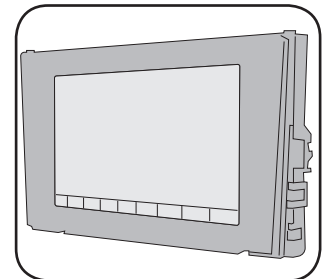
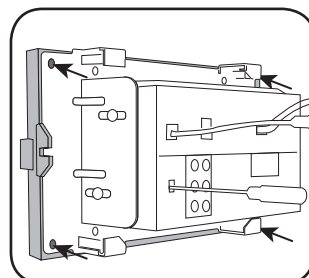

Fig. 1.15
Fig. 1.16
- Place VW1 bezel onto the mounting bracket (Fig. 1.15), securing it with the four (4) Phillips screws included with the VW1 kit. (Fig. 1.16)